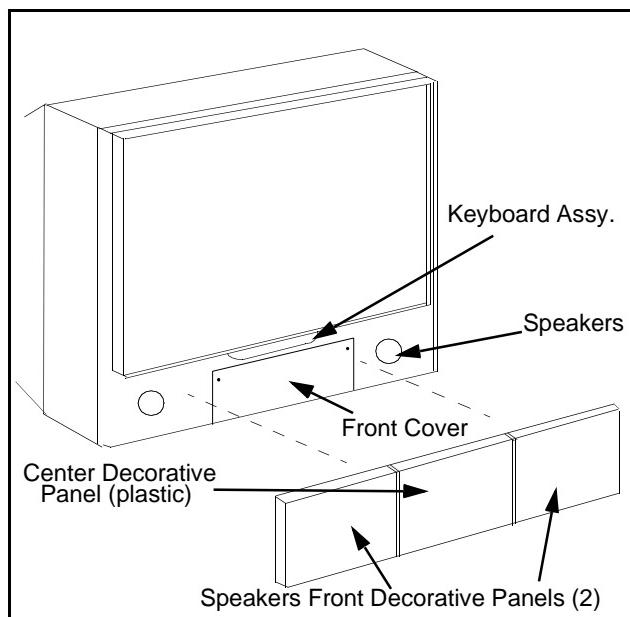

Figure 8. Panel Removal.
(Figure 8.)
1. Remove the three front decorative panels. (see Figure 8)
2. Unplug the cables (2) from the Keyboard assembly. Remove the 2 screws from the Keyboard assembly. Tilt the Keyboard assembly upward and release it from the screen frame assembly.
1. Remove the speakers decorative panels. (see Figure 8)
2. Each left and right speaker set are secured to the cabinet with (4) screws.
1. Remove 3 front decorative panels and front cover. (Figure 8)